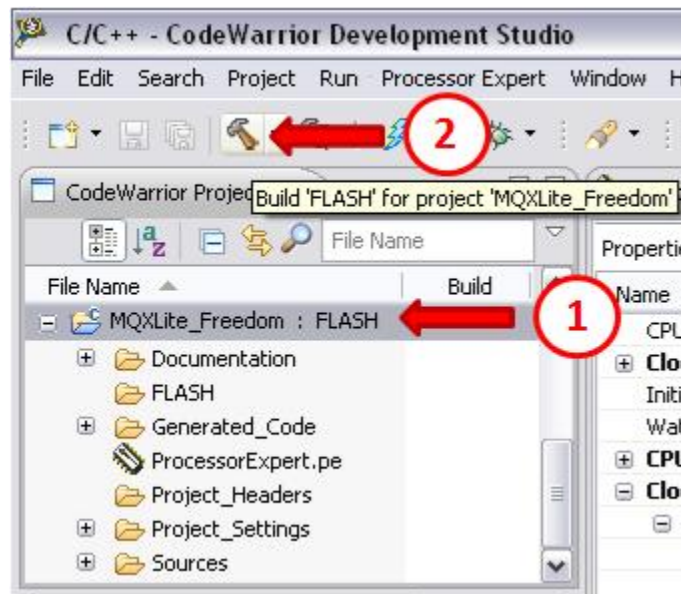

Figure 18. Compiling the project
- It is necessary to compile the project to verify that there are no errors while using the generated code. To compile the project go to the CodeWarrior Projects window. Click on the Project name and then click on the compile button. See Figure 18.